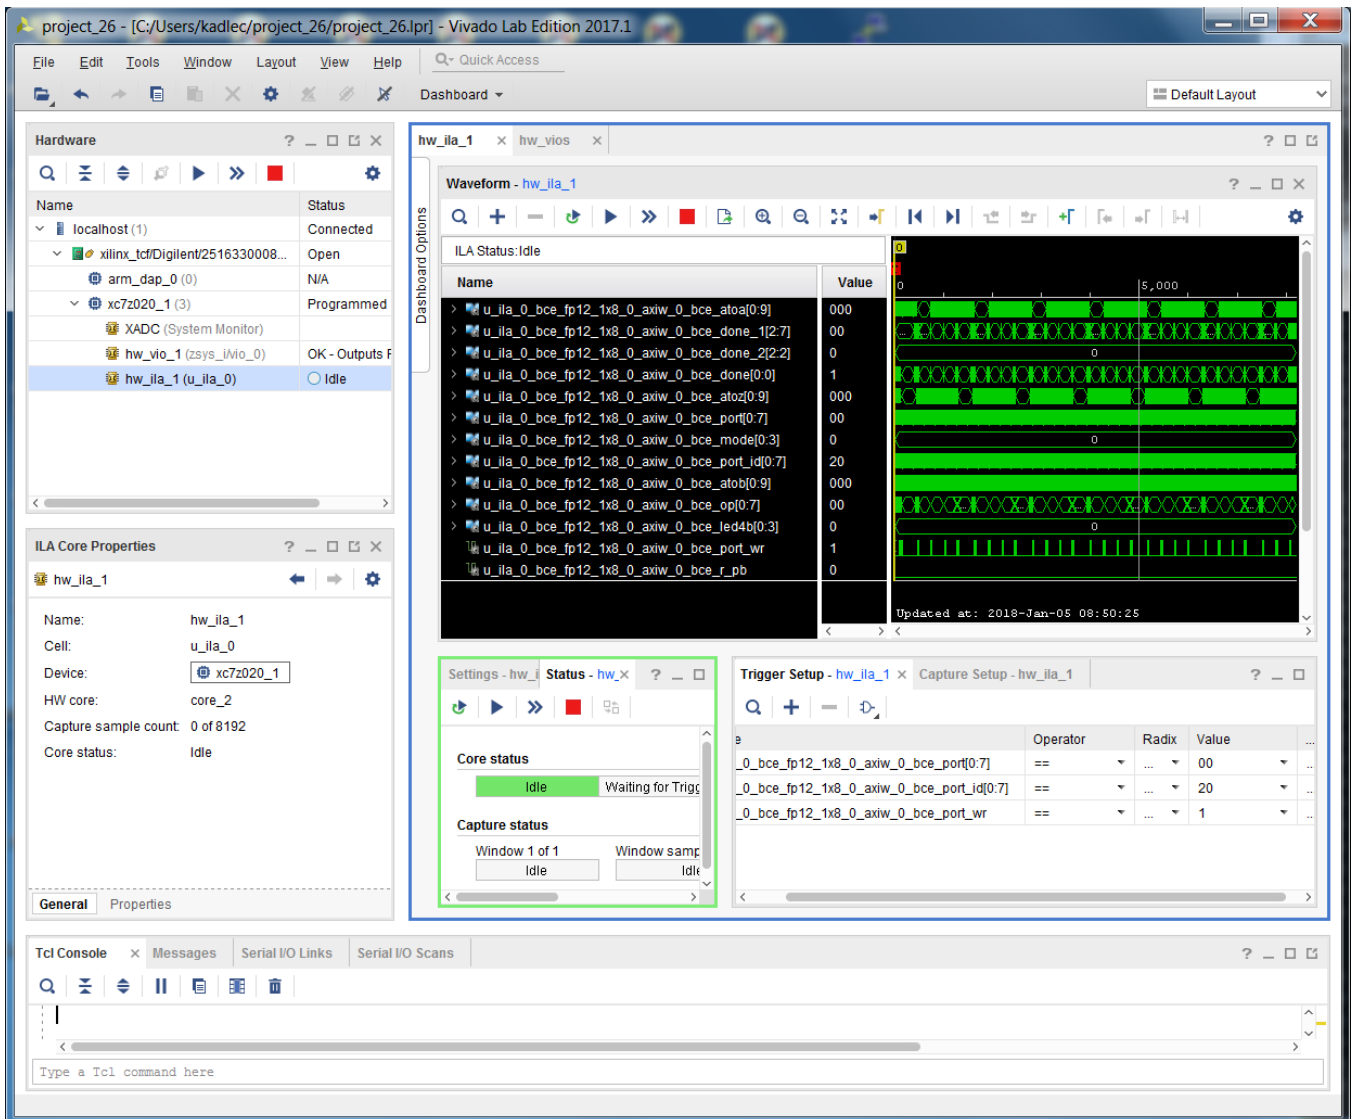
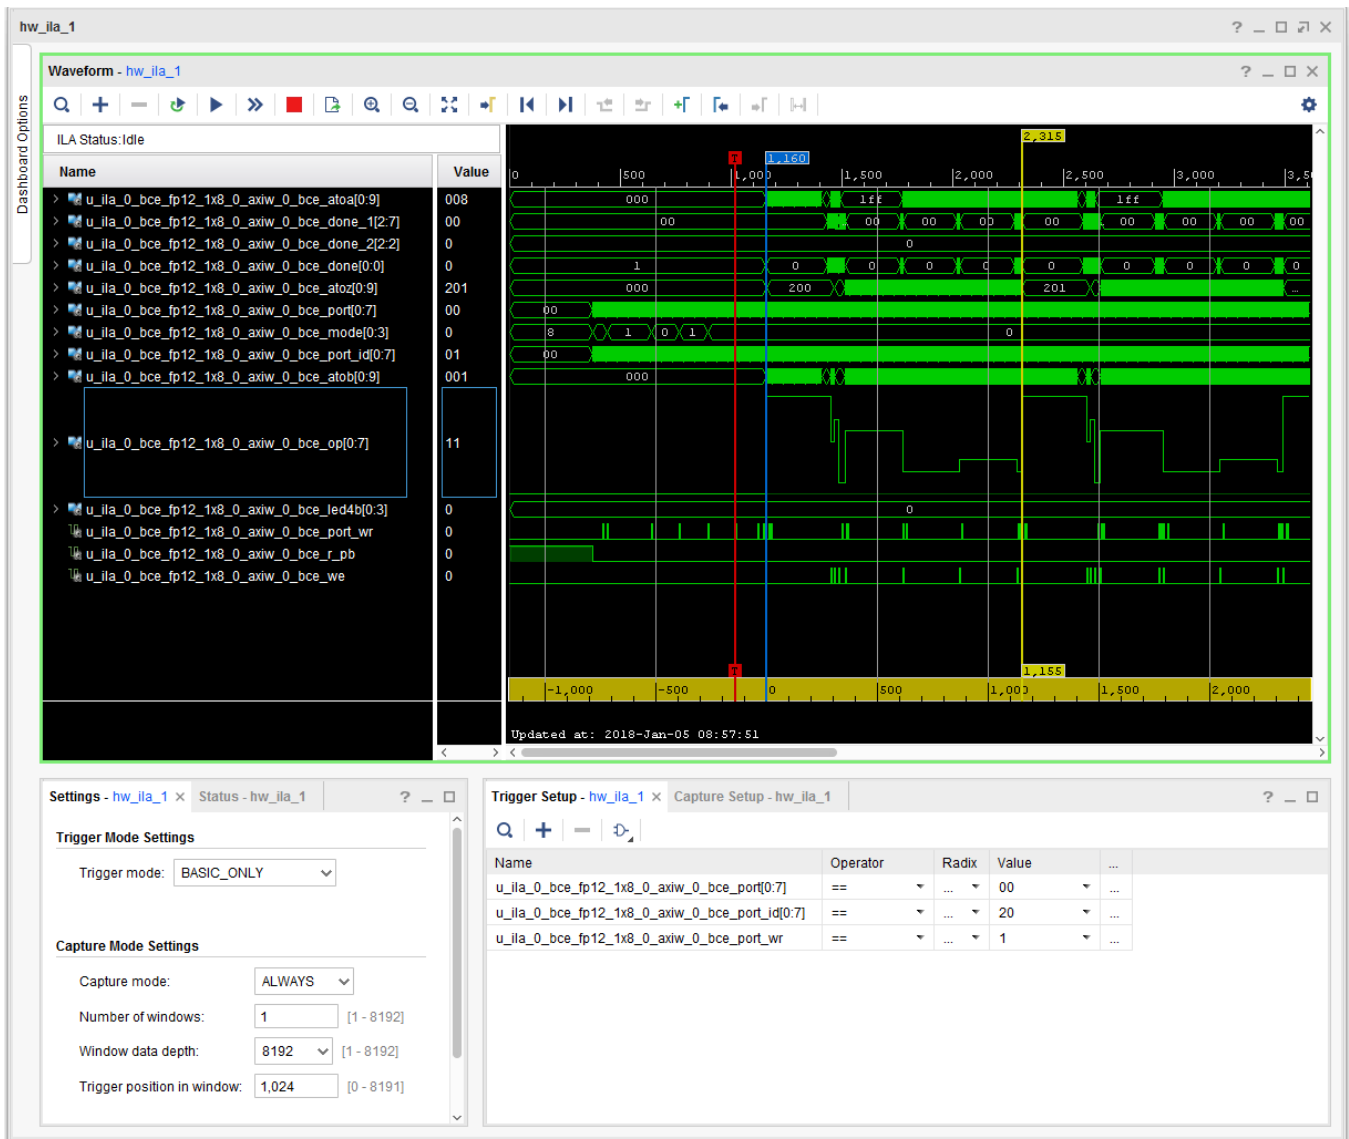
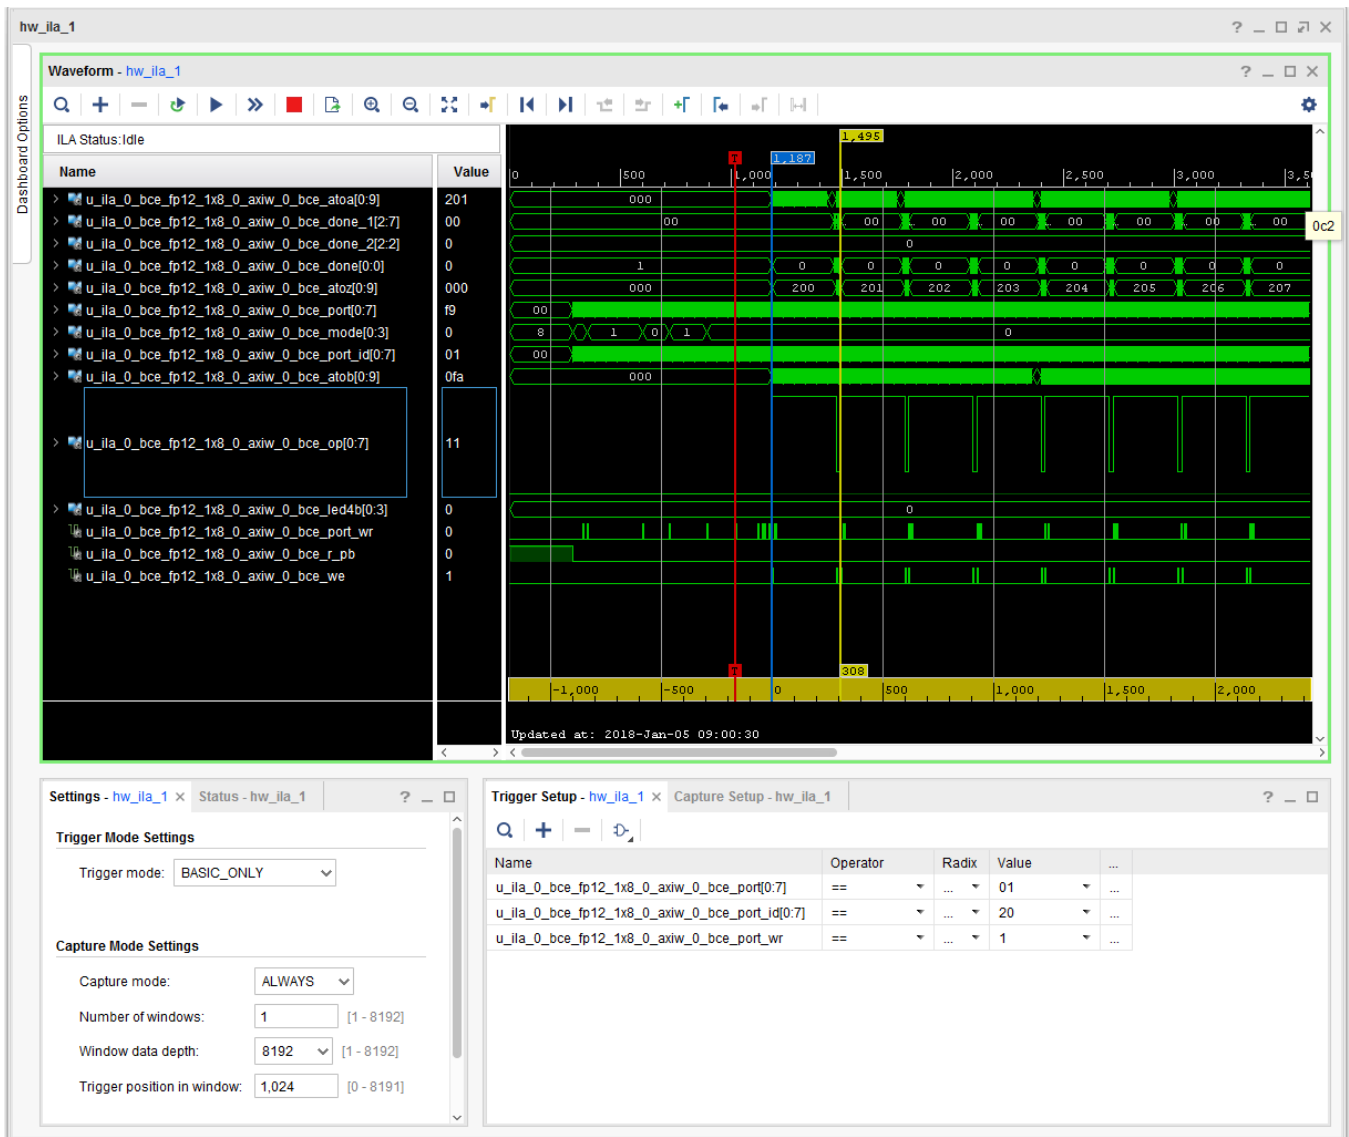

Figure 9: Release demo t01_s. Probes file is specified. Trigger conditions are set.
Figure 10: Release demo t01_s. Details of the 8xSIMD EdkDSP LMS filter computation.
Figure 11: Release demo t01_s. Details of the 8xSIMD EdkDSP FIR filter computation.
- Set the ILA trigger conditions and observe process of computation in the 8xSIMD EdkDSP IP. See *Figure 9*, *Figure 10*, *Figure 11*.
The Vivado Lab tool is connected to the chip. You have to specify the probes file (See Figure 9).
Names and parameters of probes are added to the ILA Waveform window. See Figure 9. Use + to select probes used for triggering, and select the condition for the trigger for each probe and their combinations (use AND as default).
ILA core starts to capture 8K samples of all debug signals with the sampling rate 120 MHz. Data are captured and sent via jtag USB connection in Vivado Lab Edition 2017.1 for visualisation and analysis in the waveform window. This snapshot stores the detailed trace of the initial 8192 clock cycles of the FIR filter computation as defined by the SW displayed in *Figure 10*.
In Vivado Lab Edition, in the ILA configuration page, change the trigger condition to `bce_port[0:7]==0x01`: to capture start of the FIR filter. See Figure 11. The PicoBlaze C code of the FIR example is listed in Figure 18.
Screens presented in Figure 10 and Figure 11 display also 1024 samples before the Trigger event. This is set in the trigger mode settings window. The PicoBlaze6 controller reset signal `bce_r_pb` is deactivated. Picoblaze6 reads 8 bit parameters `op` and `n` from MicroBlaze before the trigger event. See the program listing in Figure 18.
- Open description of debug nets present in file, thus specifying the probes file. See *Figure 9*.
- Set the ILA trigger conditions and observe process of computation in the 8xSIMD EdkDSP IP. See *Figure 10, Figure 11*.
(9) Close Vivado Lab tool project.
(10) Remove SD card and reprogram it in PC to test another example.
(11) Go to step (6).